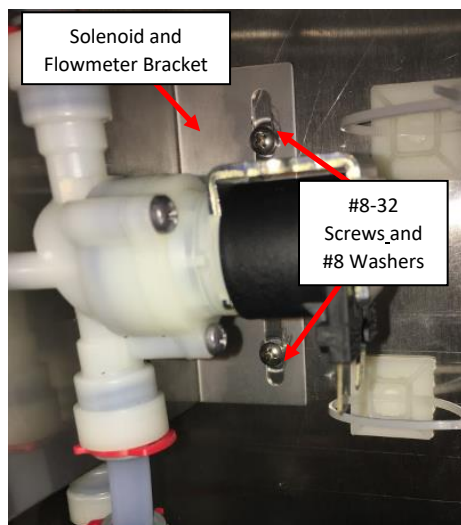

Figure F1: Flowmeter-Solenoid bracket held with two #8-32 Screws and two (2) #8 Washers.
1. Remove the two screws (8-32) holding the flowmeter-solenoid bracket in place. **See Figure F1.**